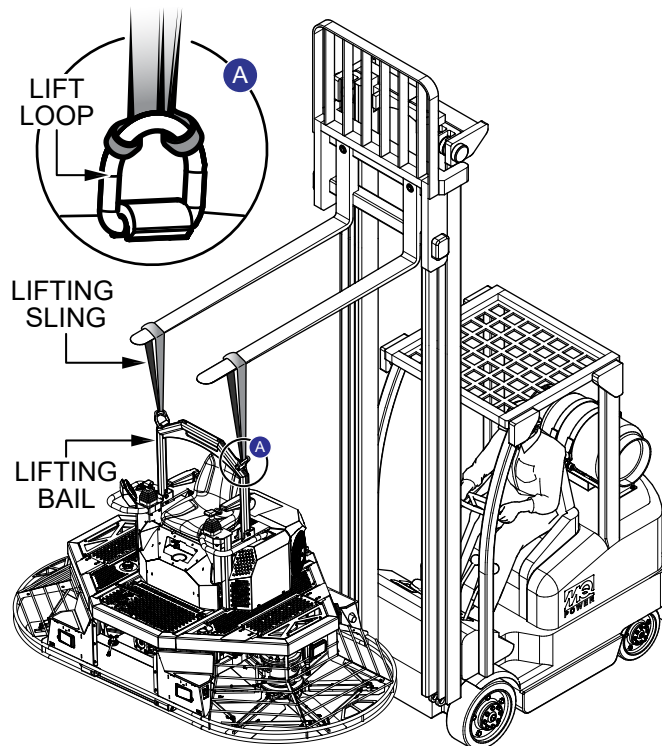

Figure 2. Lifting the Trowel (Lift Loops)
1. The trowel can be lifted with the lifting bail raised or lowered. With the lifting bail raised (Figure 2), secure the lifting slings to the lift loops located at the top of the lifting bail.